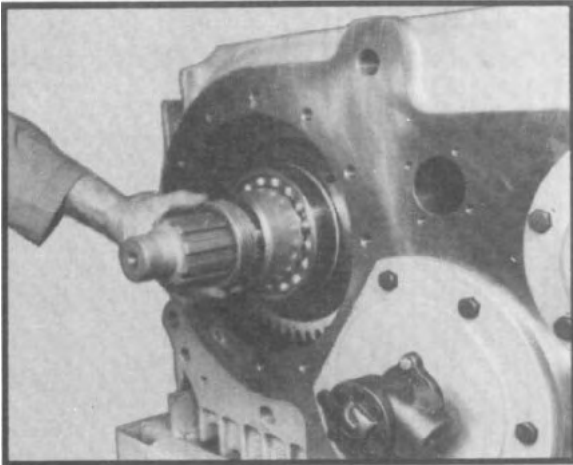

Fig. 107
- 1.13. Install spacer tube on the rear of the shaft (internal chamfer inward). Install speedometer drive gear on shaft. (See fig. 107)